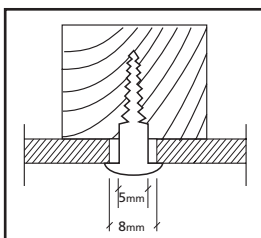

figure 11
- 1.5 x 5 mm for All-Tight rapid installation coloured tap torx screws on dilatation points (see Fig. 11).